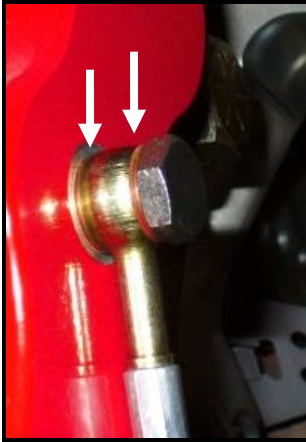

Figure 9: Crush washers and banjo bolt
10. Install the steel braid hose banjo end with one copper washer on each side of the banjo fitting. Finger tighten the banjo bolt. Connect the hose to the hardline at the frame and install the hose lock. ****IMPORTANT: Position the hose to avoid interference with the wheel and suspension components through the entire range of motion.** Tighten fitting and banjo bolt to 15-20 ft·lbs. See Figures 9 and 10 for reference.